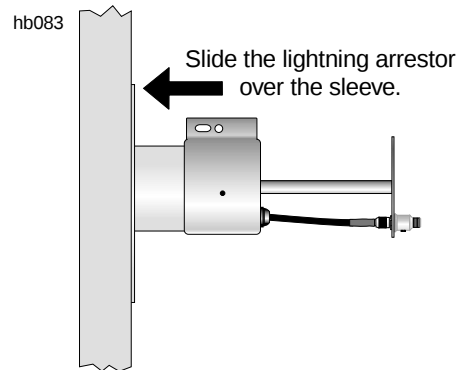

Figure 5-8 Attaching the lightning arrestor to the sleeve
1. Slide the lightning arrestor over the sleeve, as shown in figure 5-8.